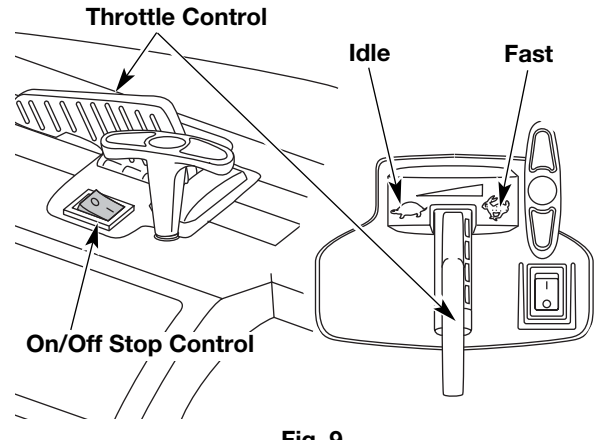
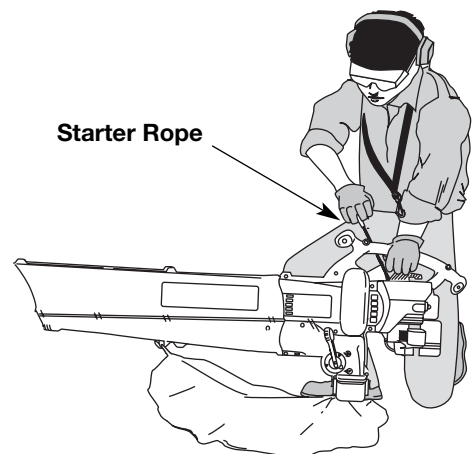

Fig. 9
Fig. 11
WARNING: Avoid accidental starting. Make sure you are in the starting position when pulling the starter rope (Fig. 11). To avoid serious injury, the operator and unit must be in a stable position while starting. Do not set unit on any surface except a clean, hard area while starting. Debris such as gravel, sand, dust and grass could be picked up by the air intake and thrown out by the discharge opening. This could damage the unit, property, or cause serious injury to bystanders or the operator.
5. Place the unit in the starting position (Fig. 11). Move the throttle control to the fast position (☛) (Fig. 9).